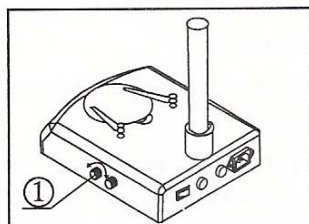

Fig. 10
- 1) Turn the light regulation knob according to the sign marked on the base, along the clockwise the brightness will be added, otherwise it will be weakened. (Fig.10)